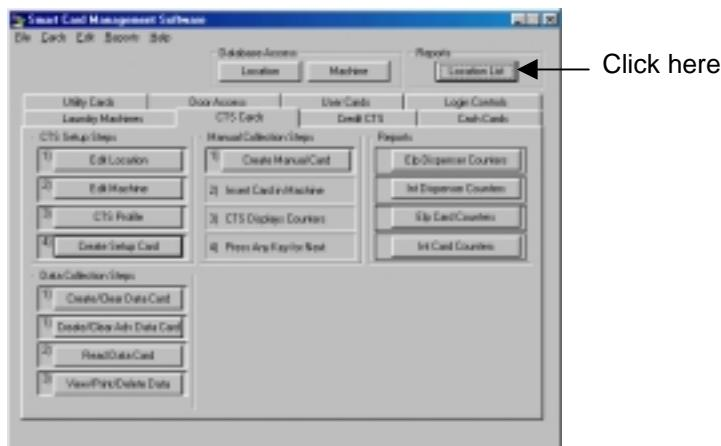

Figure 5.6 Opening a Location List Report
1. Click the Location List button in the main SMS2 window (Figure 5.6).